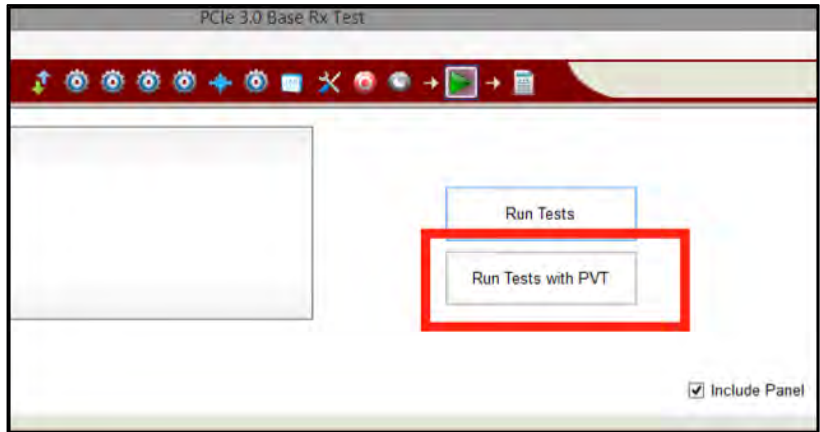

FIGURE 114 RUN TESTS WITH PVT
8. Run the tests using the “Run Tests with PVT” button (see Figure 114).